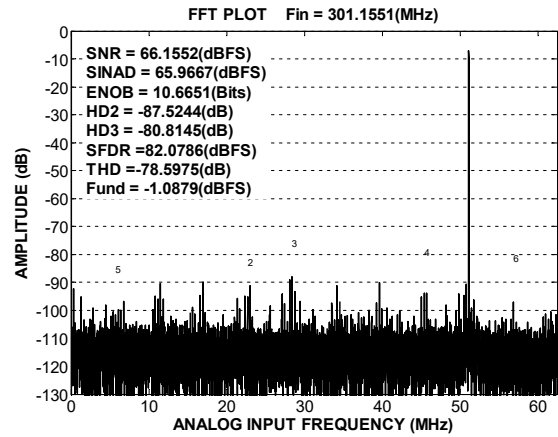
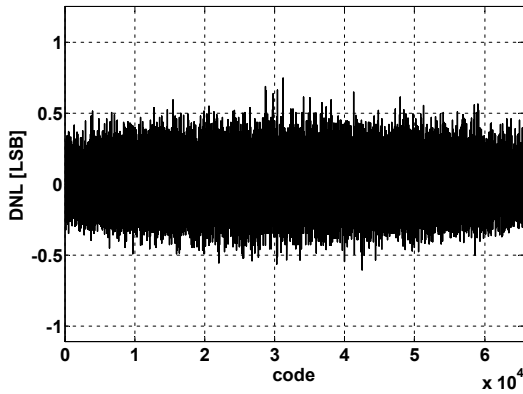

Figure10.Single-Tone32K( $f_{IN}=301\text{MHz}$ ,  $f_s=125\text{MSPS}$ )
Figure11.Differential Nonlinearity (DNL)( $f_{IN}=9.7\text{MHz}$ ,  $f_s=125\text{MSPS}$ )
Figure 10 and Figure 11 show two preferred methods for clocking the CBM96AD56-125 (at clock rates up to 1 GHz prior to internal clock divider). A low jitter clock source is converted from a single-ended signal to a differential signal using either a radio frequency (RF) transformer or an RF balun.